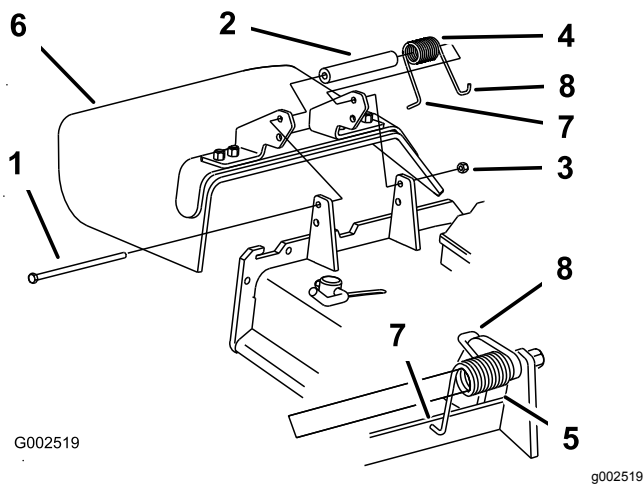

Figure 107
1. Remove the locknut, bolt, spring and spacer holding the deflector to the pivot brackets (Figure 107).
Note: Make sure that the L end of the spring is installed behind the deck edge before installing the bolt as shown in Figure 107
5. Place the J-hook end of the spring around the grass deflector (Figure 107).